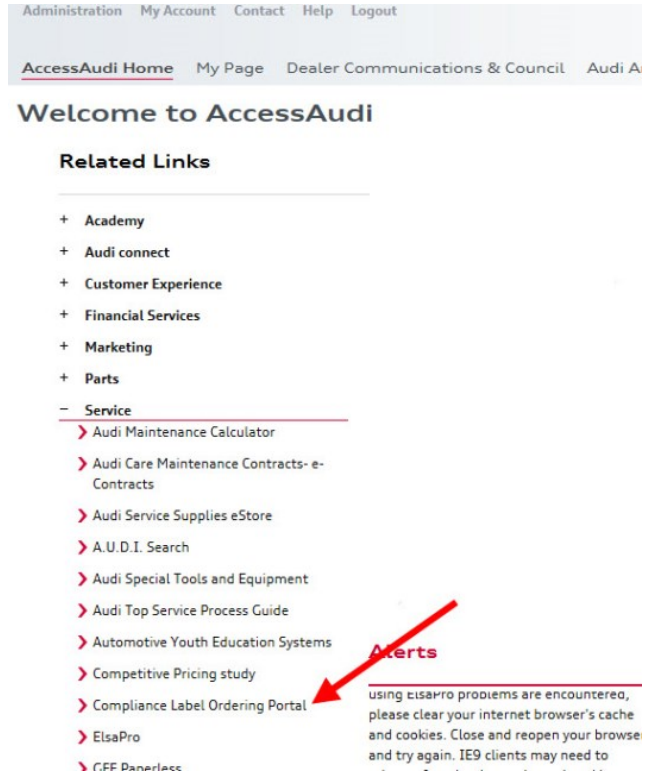

Figure 4. Compliance Label Ordering Portal.
1. Order the fuel sample kit (part number LQ1LKIT) from the Compliance Label Ordering Portal under Service in AccessAudi (Figure 4).